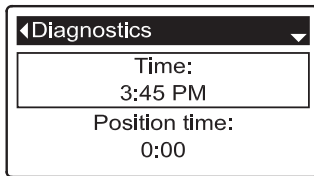

FIG. 89
8. Press the SELECT (O) button to display the Diagnostics screen (See Figure 89).